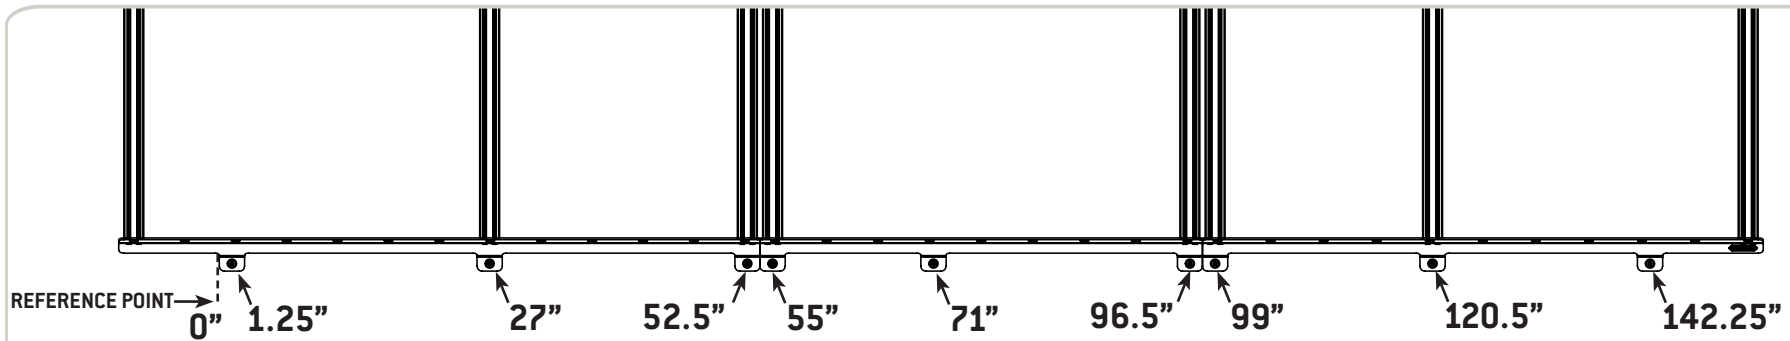

FIG 3
**1.2 Layout Rail Nuts:** Space out the **Rail Nuts** close to their final positions as roughly laid out in **FIG 3**.